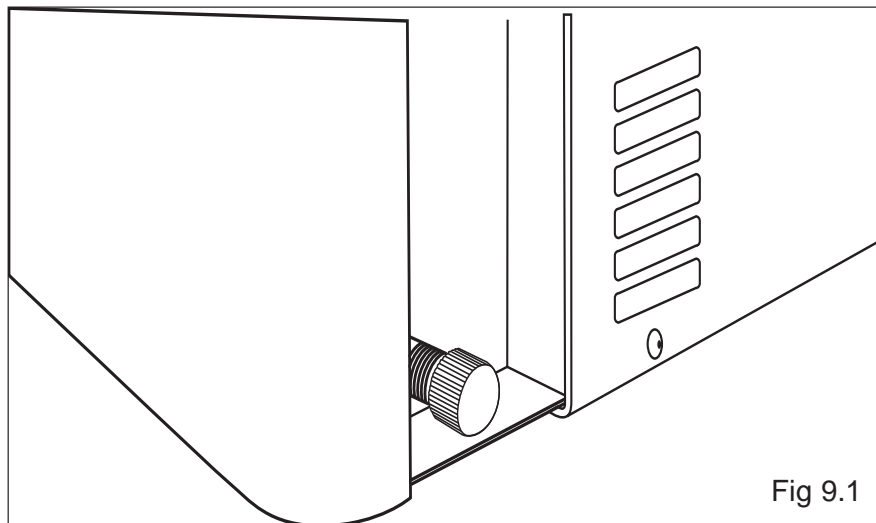

Fig 9.1
- Remove the drain cap (as shown in fig. 9.1 ).